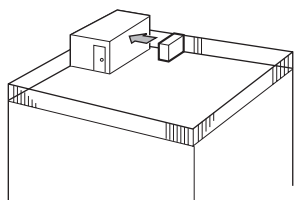

Fig. 2-2
- ① Face the air outlet towards the nearest available wall about 50 cm (19-11/16") away from the wall. (Fig. 2-2)